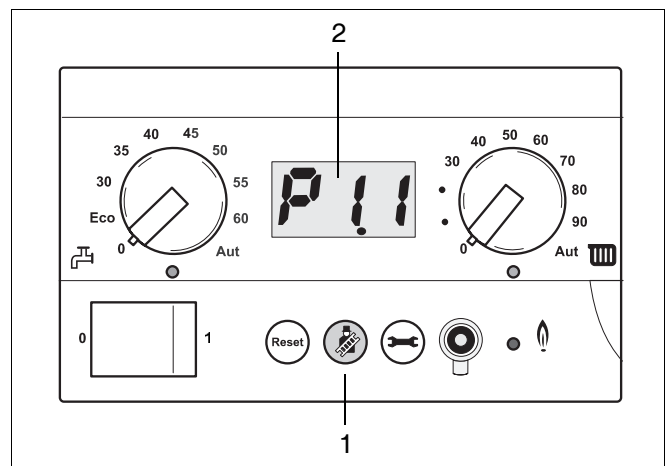

Fig. 2 BC 10
- Press the service button (fig. 2, item 1) until the system pressure "P1.1" appears in the display (fig. 2, item 2).